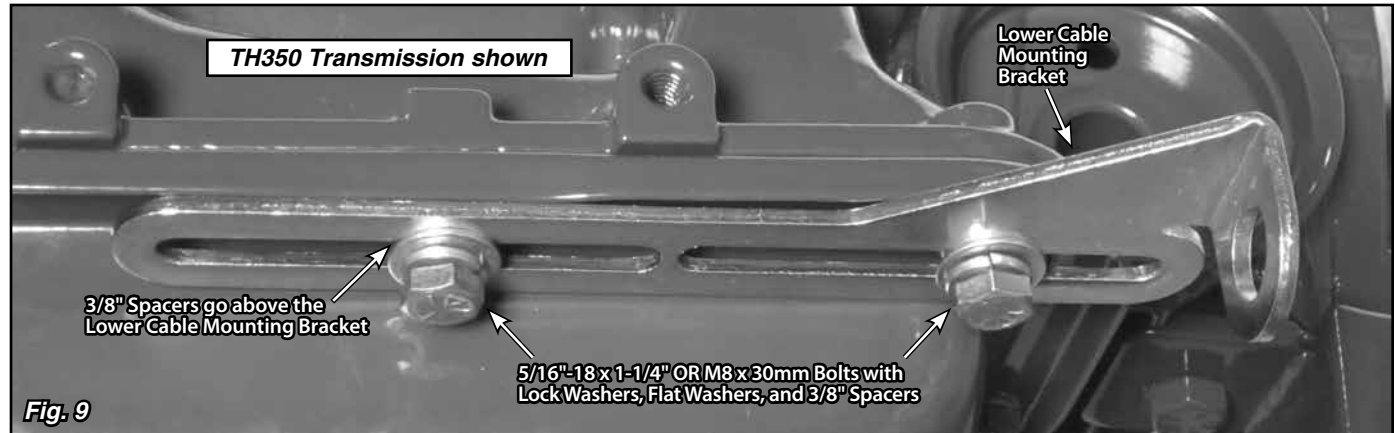

Fig. 9
**Step 11:** Install the lower cable mounting bracket on the driver side of the transmission pan, using the provided longer bolts, lock washers, flat washers, and 3/8" spacers. Do not tighten the bolts yet. Most TH350 and TH400 transmissions use standard thread bolts (5/16"-18 x 1-1/4"). 700-R4, 200-4R, 4L60, and 4L60E transmissions use metric bolts (M8 x 30mm). The TH350 uses the two rearmost pan bolts on the driver side, and TH400, 700-R4, 200-4R, 4L60, and 4L60E use the two pan bolts directly behind the selector shaft. Fig. 9